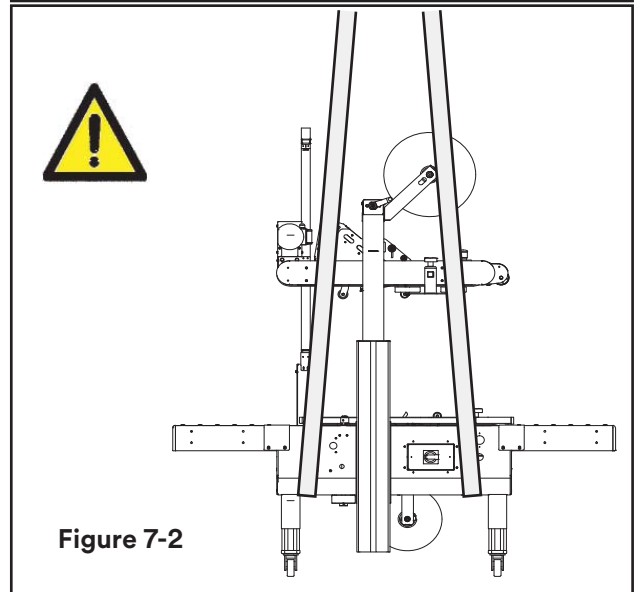

Figure 7-2
- 1 - Lift the machine with belts or ropes paying attention to place the belts in the points (Figure 7-2).